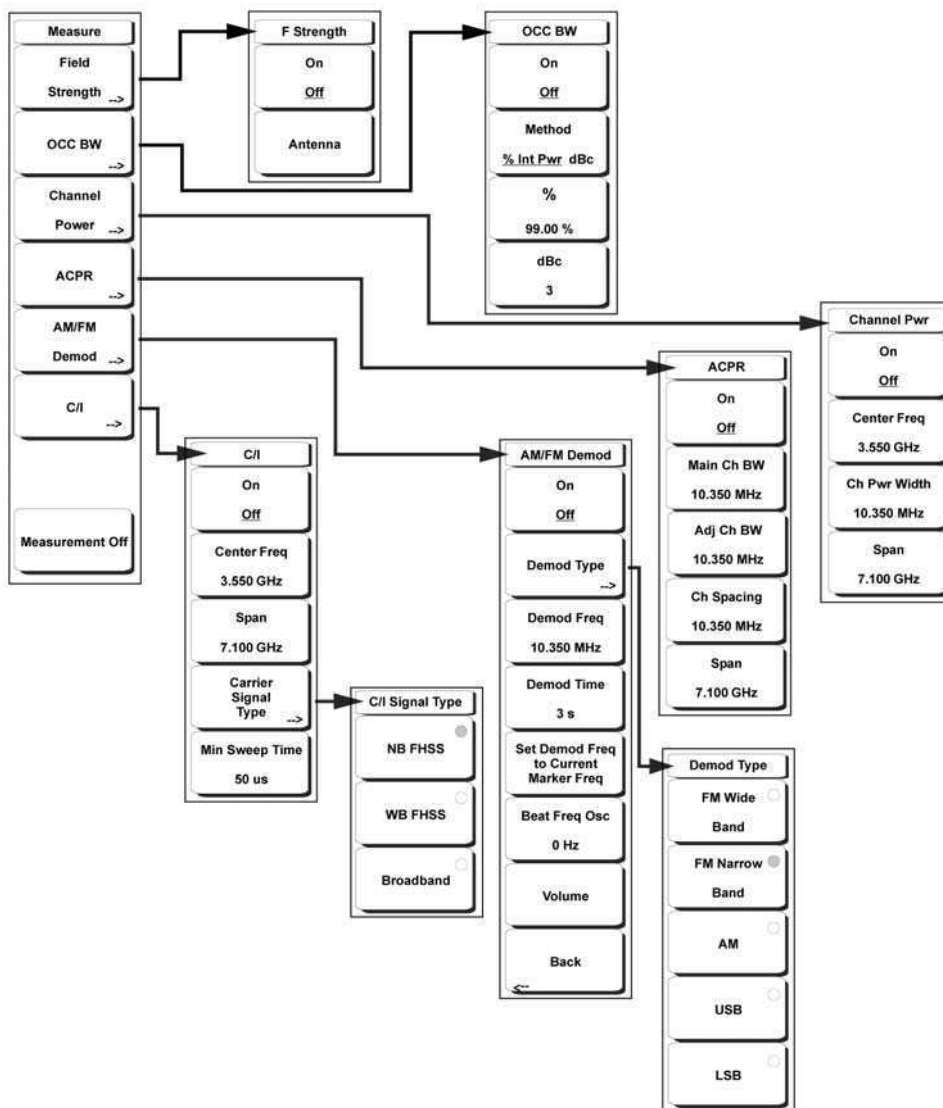

Figure 4-17. Measure Menu Soft Keys
To access the functions under the Measure menu, select the **Shift** key, then the **Measure** (4) key. The Measure menu soft keys are shown in Figure 4-17.